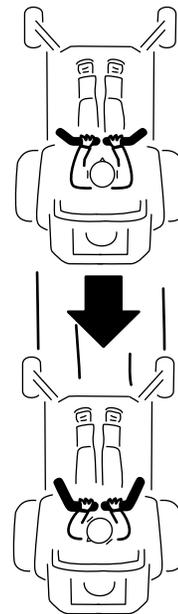

Figure 23
2. To go in reverse, slowly pull the motion-control levers rearward (Figure 23).